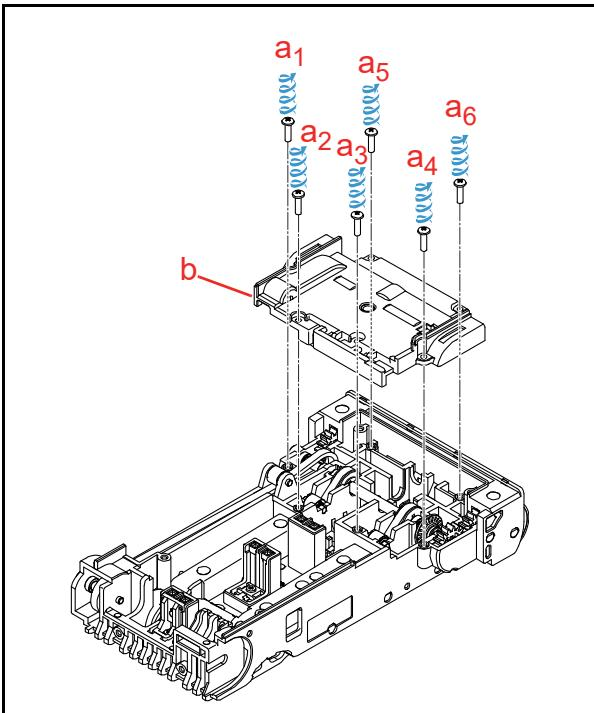

**Figure 4-39** Status LED/Collect Button Removal
1. Remove the two (2) Screws (Figure 4-39 **a1** & **a2**).
2. Remove the Status LED/Collect Button (Figure 4-39 **b**).
3. Remove the single (1) Spring (Figure 4-39 **c**) from the Button.